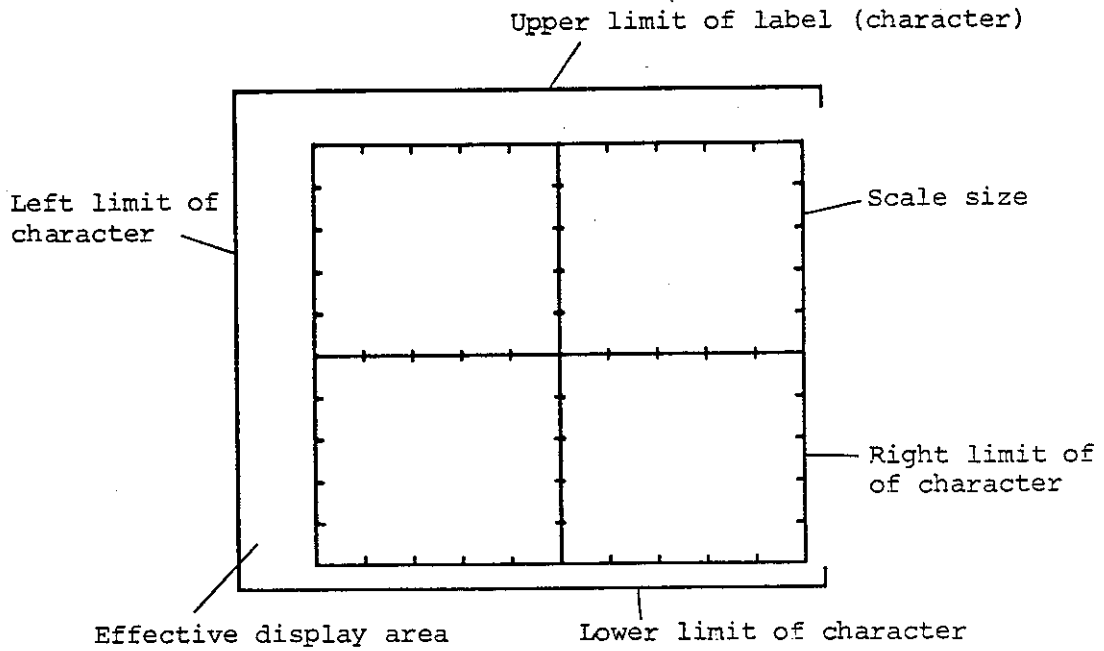

Fig. 11-7 Standard display scale (MPH-20803A)
- ⑥ Press  to select 8°/div. Set the DC voltage standard output to +400 mV. Adjust R156 until the voltmeter reads +4.750 V ±5 mV.
- ⑦ Use the data knob to select 20°/div. Set the DC voltage standard output to +1.000 V. Adjust R147 until the voltmeter reads +4.750 V ±5 mV.
- ⑧ Use the data knob to select 40°/div. Set the DC voltage standard output to +2.000 V. Adjust R150 until the voltmeter reads +4.750 V ±5 mV.
- ⑨ Use the data knob to select 80°/div. Adjust R153 until the voltmeter reads +3.625 V ±5 mV.
(3) Graticule position adjustment
- ① Adjust R183 so the bottom end of the vertical scale is aligned to the bottom graticule of the horizontal scale.
- ② Adjust R190 until the left end of the horizontal scale is aligned to the leftmost graticule of the vertical scale.
- ③ Adjust R180 until the top end of the vertical scale is aligned to the top graticule of the horizontal scale.
- ④ Adjust R188 until the right end of the horizontal scale is aligned to the rightmost graticule of the vertical scale.
(4) Character size and position adjustment
- ① Place the standard pattern scale shown in Figure 11-7 (used for X- and Y-axis adjustment) on the display screen.
- ② Make the following adjustments until each character location is aligned to the standard pattern scale: